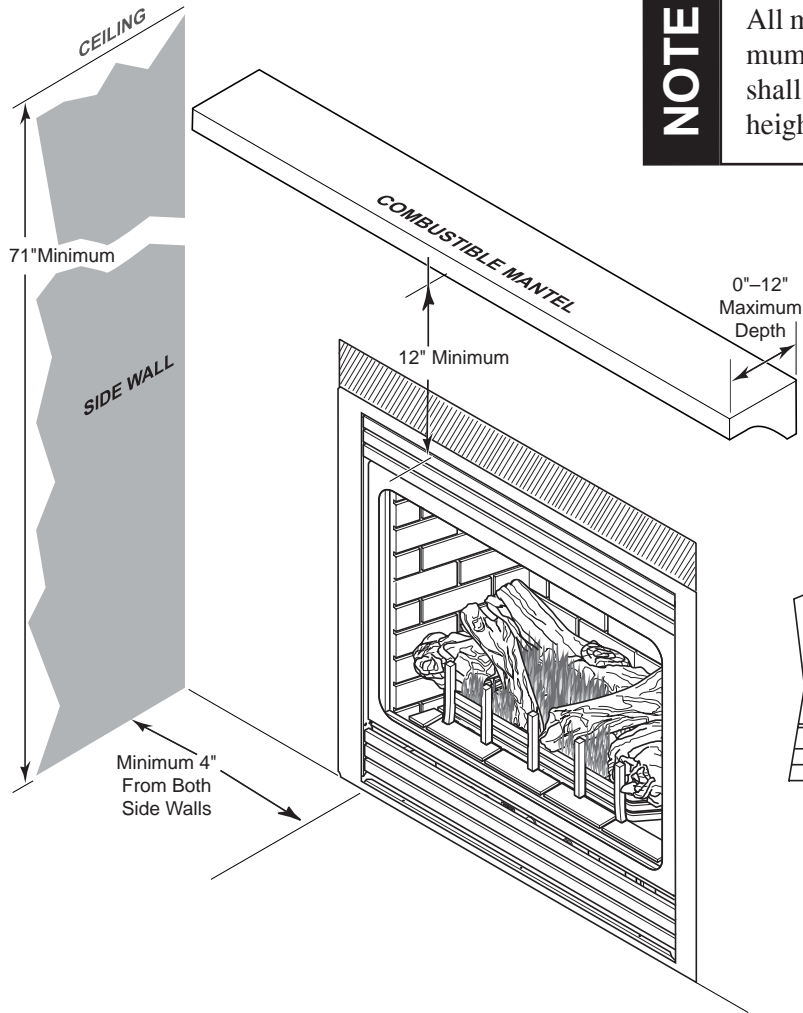

Figure 5 - Clearances
The fireplace must be secured to the floor and/or to framing studs as shown in Figure 5. Use two (2) wood screws or masonry/concrete screws to secure fireplace to the floor. Use four (4) screws to attach fireplace to framing. The side nailing flanges are 1/2" or 5/8" to accommodate different wall thickness.